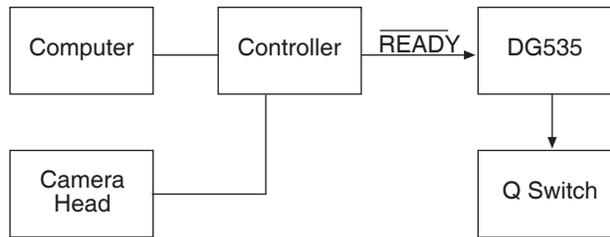
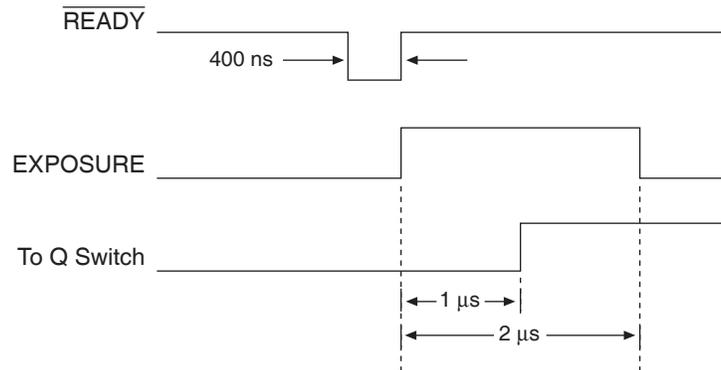

Figure 52. Setup using **READY** to trigger an Event
Figure 53. Timing for Experiment Setup shown in Figure 52
**Example:** Figure 52 shows an experiment where the rising edge of the **READY** signal is used to trigger a DG535 Delay Generator, which provides the required delay and triggers a laser source, Q switch, or other device.
Figure 53 illustrates the timing for a typical experiment like that shown in Figure 52.